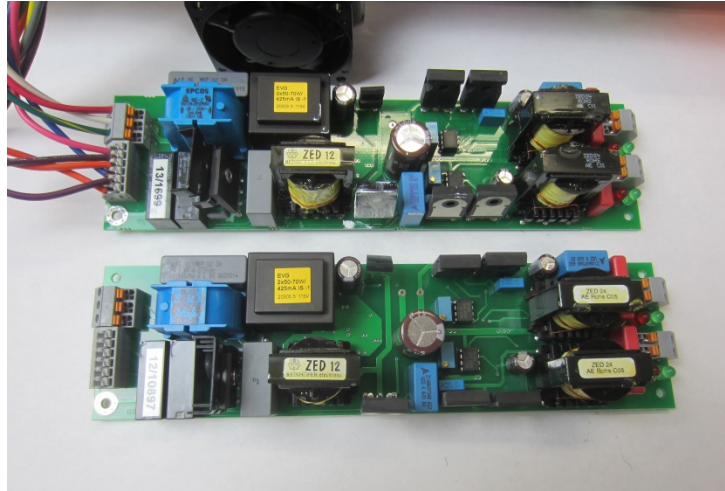

Figure 6-26-1
16. Next the wires from the terminals at the left end of the old Ballast must be transferred to the new Ballast. Place the new Ballast in front of the old Ballast as shown in Figure 6-26-1.